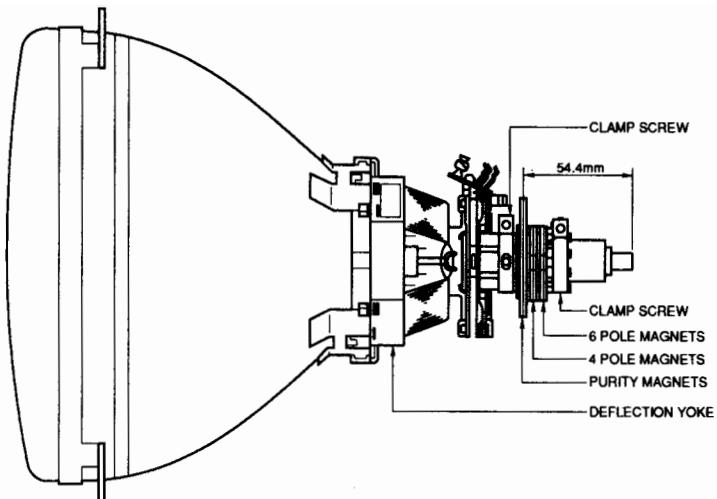

Fig. 8
1. Check for correct location of all neck components. (Refer to Fig. 8)
### STATIC CONVERGENCE ADJUSTMENT (Refer to Fig. 8 & Fig. 9)
**IMPORTANT:** Before proceeding, check location of the convergence magnet assembly on the neck of the CRT as shown in Fig. 8. The rear edge of this assembly must be Positioned 3/4 inch from the tip of the CRT base. If not properly positioned, convergence adjustment may be difficult, if not impossible.